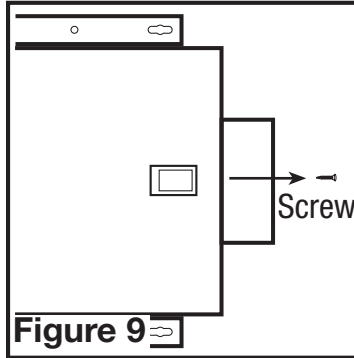

Figure 9
- Determine the CFM required. The unit can be set from 40 CFM to 120 CFM in increments of 10 CFM. Remove the screw securing the access panel cover in place and open the cover to gain access. Locate the speed control panel inside the unit (**Figure 9**).